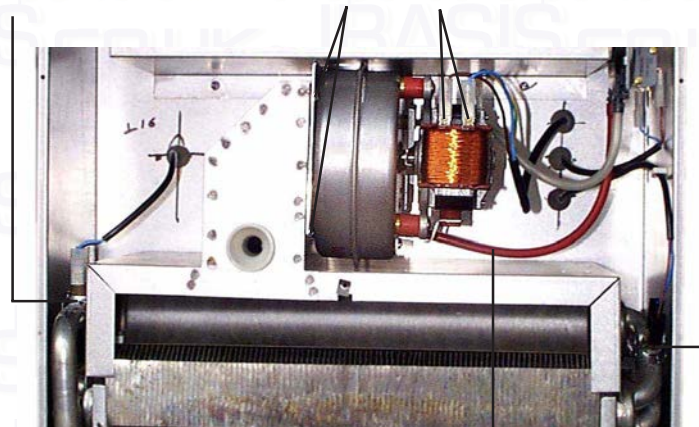

Fig. 31
7.10 Removal of fan (fig. 31)
7.11 Limit thermostat, or overheat cut off thermostat (fig. 31)
- Identify the location of thermostat from fig. 31